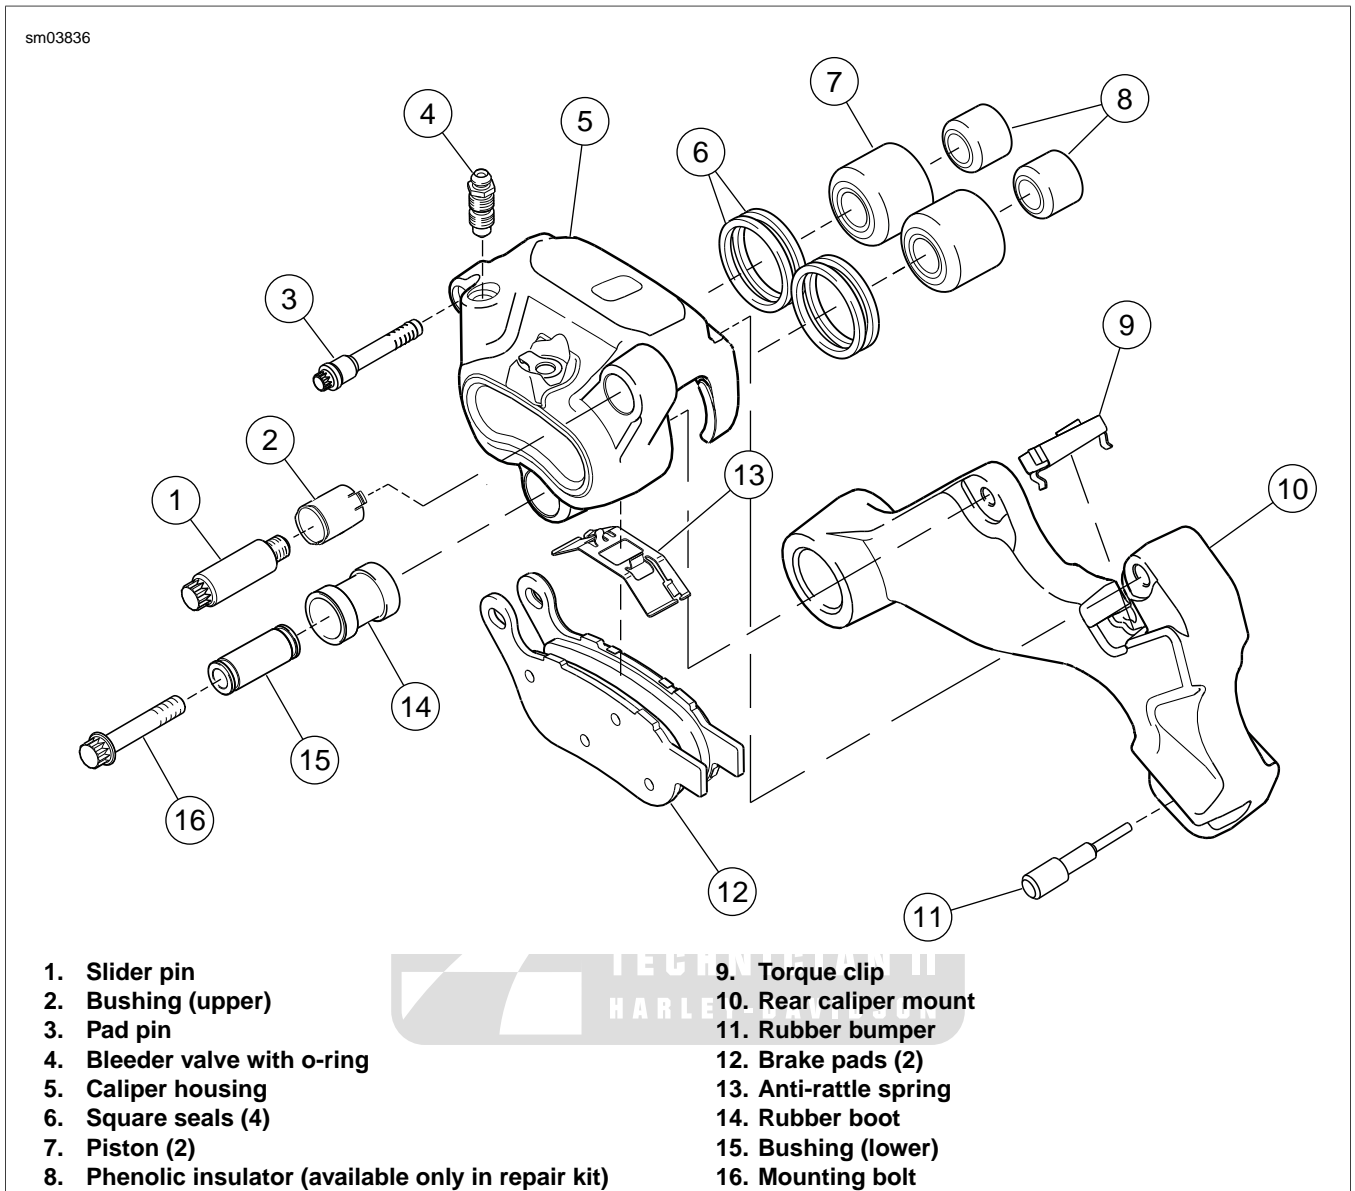

Figure 2-76. Rear Brake Caliper
1. See Figure 2-76. Remove pad pin (3) and brake pads (12).
2. If necessary, remove bleeder valve (4).
- e. See Figure 2-76. Inspect rubber boot (14) for cracks and damage. Inspect bushing (15) for free movement. Inspect bushing (2) for free movement or damage.
3. Install anti-rattle spring (3). Ensure it is oriented correctly.
5. See Figure 2-76. Install bleeder valve (4) (with o-ring) in caliper housing, if removed, and tighten to 80-100 **in-lbs** (9.0-11.3 Nm).
- Anti-rattle spring orientation matches Figure 2-76.
2. See Figure 2-76. Ensure torque clip (9) is in place in caliper mount.